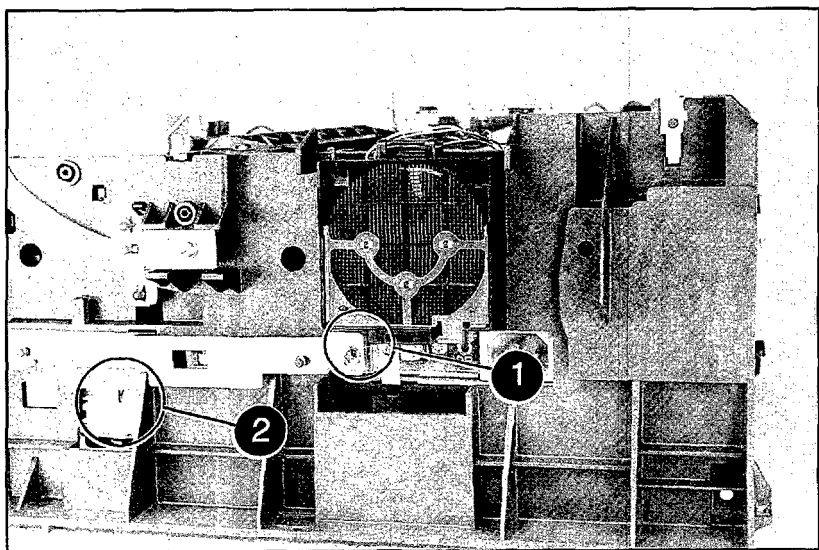

Figure 25 **Grounding Spring screw location.**
2. On the right side, remove the machine screw and washer (Figure 25) holding the grounding spring in place. (Callout 1 in Figure 25).
3. Disconnect the two cables to the tray 1 assembly (callout 2 in Figure 25).